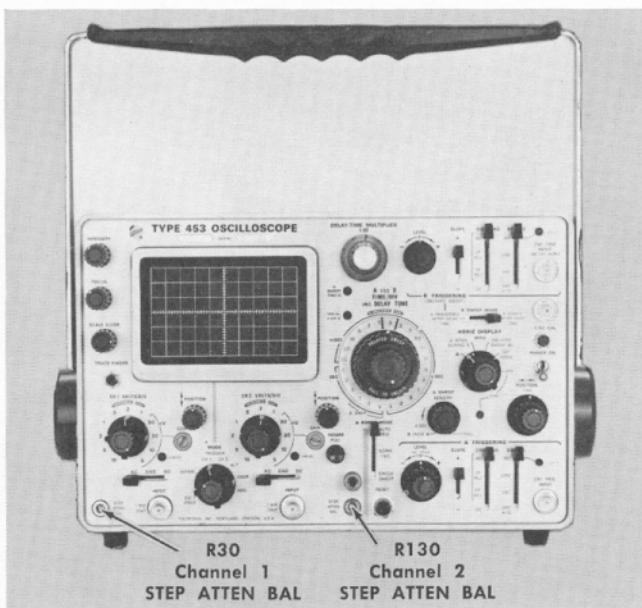

Fig. 6-18. Location of Channel 1 and 2 Step Attenuator Balance adjustments (front panel).
- d. Adjust—Channel 1 STEP ATTEN BAL adjustment, R30 (see Fig. 6-18), for no trace shift as the CH 1 VOLTS/DIV switch is changed from 20 mV to 5 mV.
- h. Adjust—Channel 2 STEP ATTEN BAL adjustment, R130 (see Fig. 6-18), for no trace shift as the CH 2 VOLTS/DIV switch is changed from 20 mV to 5 mV.